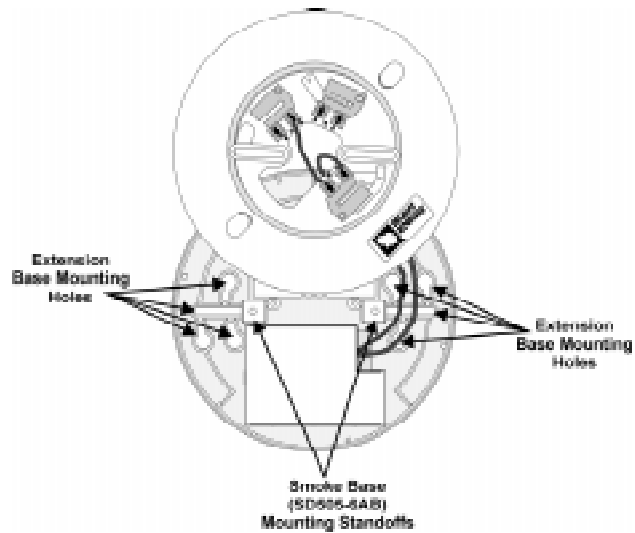

Figure 4: Mounting the SD505-6RB
1. Mount the extension base using the #8 1-1/2 screws through the extension base mounting holes. (See Figure 4.)
6. Attach the smoke base (P/N SD505-6AB) to extension base (P/N 120505) using the #8 1/2" screws. (See Figure 4.)